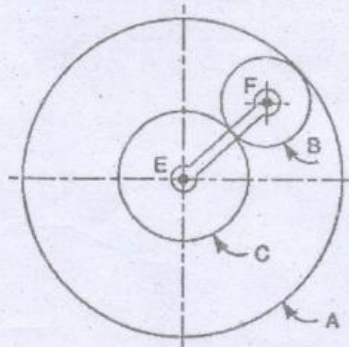

Fig. 14(b)
- (b) An epicyclic gear consists of three gears A, B and C as shown in Fig. 14 (b). The gear A has 72 internal teeth and gear C has 32 external teeth. The gear B meshes with both A and C and is carried on an arm EF which rotates about the centre of A at 18 r.p.m.. If the gear A is fixed, determine the speed of gears B and C. (13)